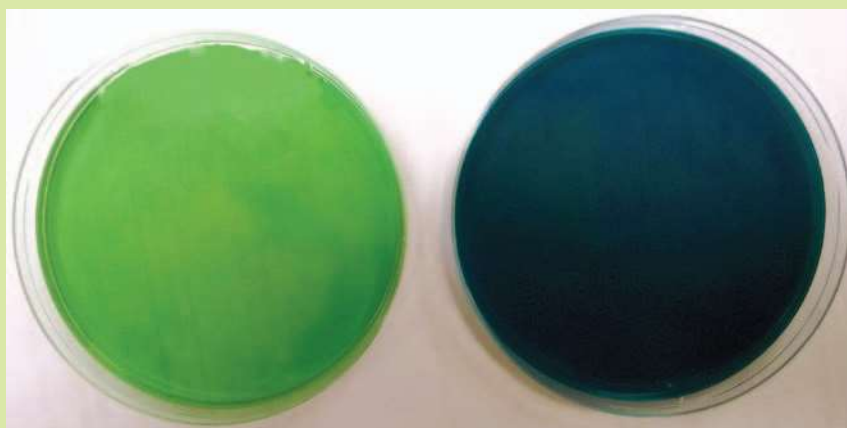

Figure 1 - The colour changes.
- 2) Within a minute or two, depending on the light, you will see a dark blue colour appearing. The more UV light the dish is exposed to, the darker blue the solution will become (Figure 1).